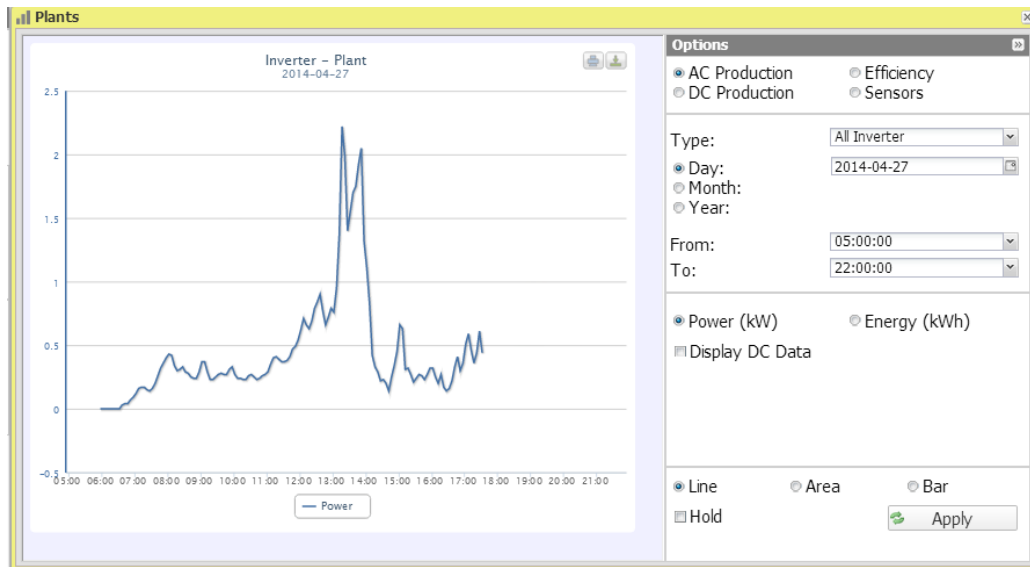

Figure 18: Plant Window; Inverter Chart – Option selection
- b. “*AC power*”: Power in alternating current expressed in kW. Through the menu shown in Fig.18 you can set the data source. The AC power data can be read from: